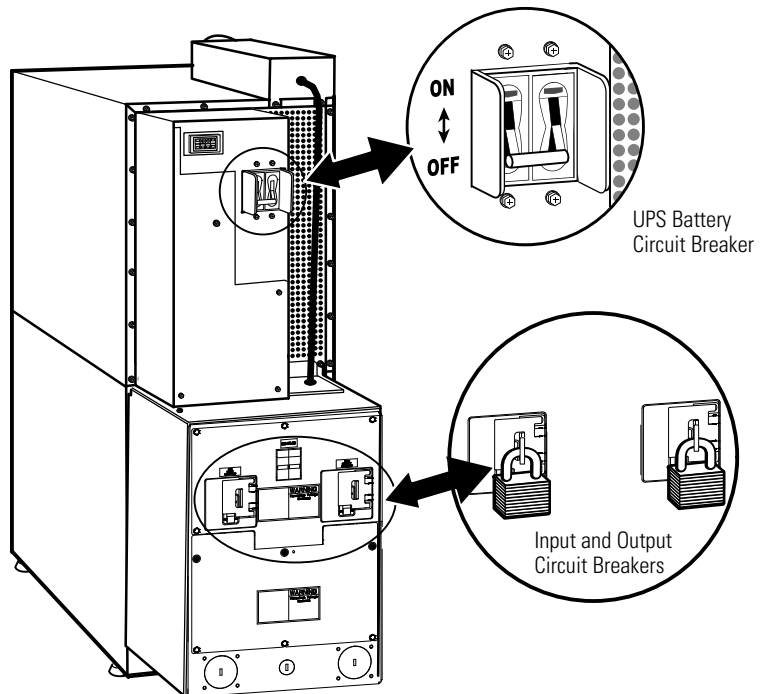

Figure 41. UPS Rear View
2. Verify that the input, output, and battery circuit breakers are in the OFF position (see Figure 41).